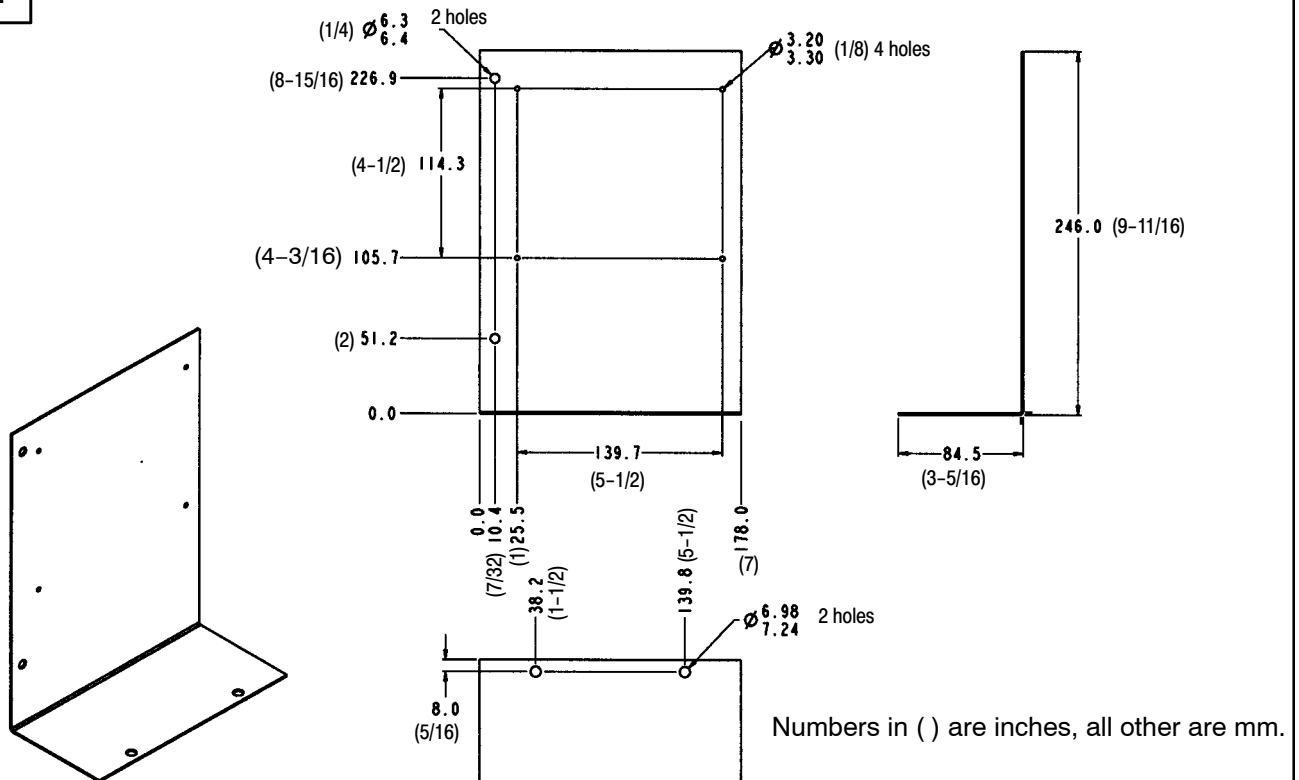

Figure 3
6. Route sensor wire from bottom of control to sensor location as specified in Fig. 3. Fasten sensor with 3 / 4 -in. 4-40 screws, plate washers, and 4-40 nuts provided.